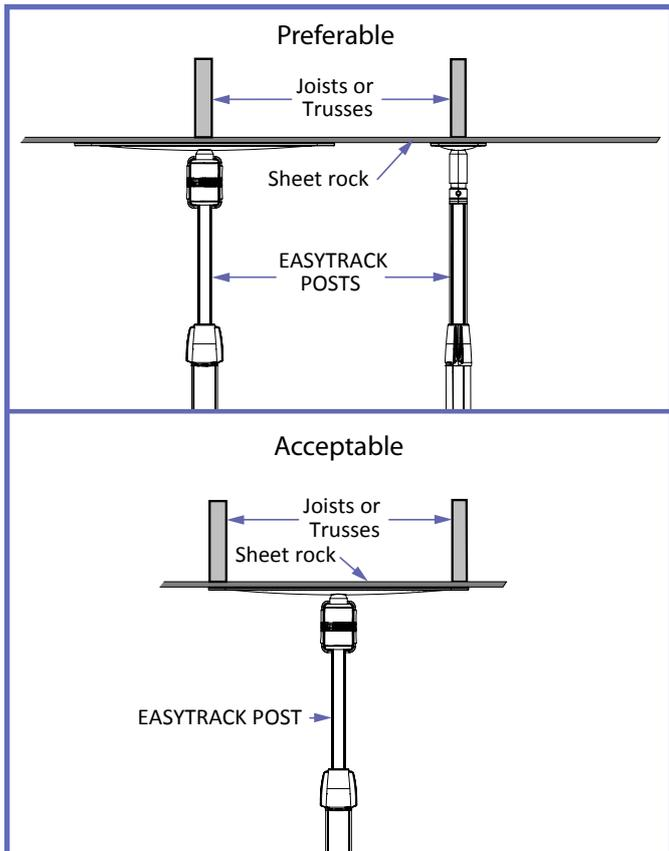

Fig.6
**NOTE:** Although it is not a requirement to place the posts directly under a joist in the ceiling, it is preferable to do so. It does not matter which direction the plates are facing, see Fig.6.